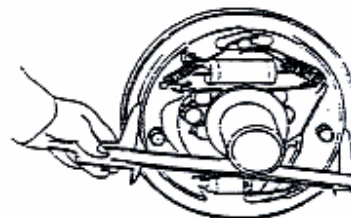
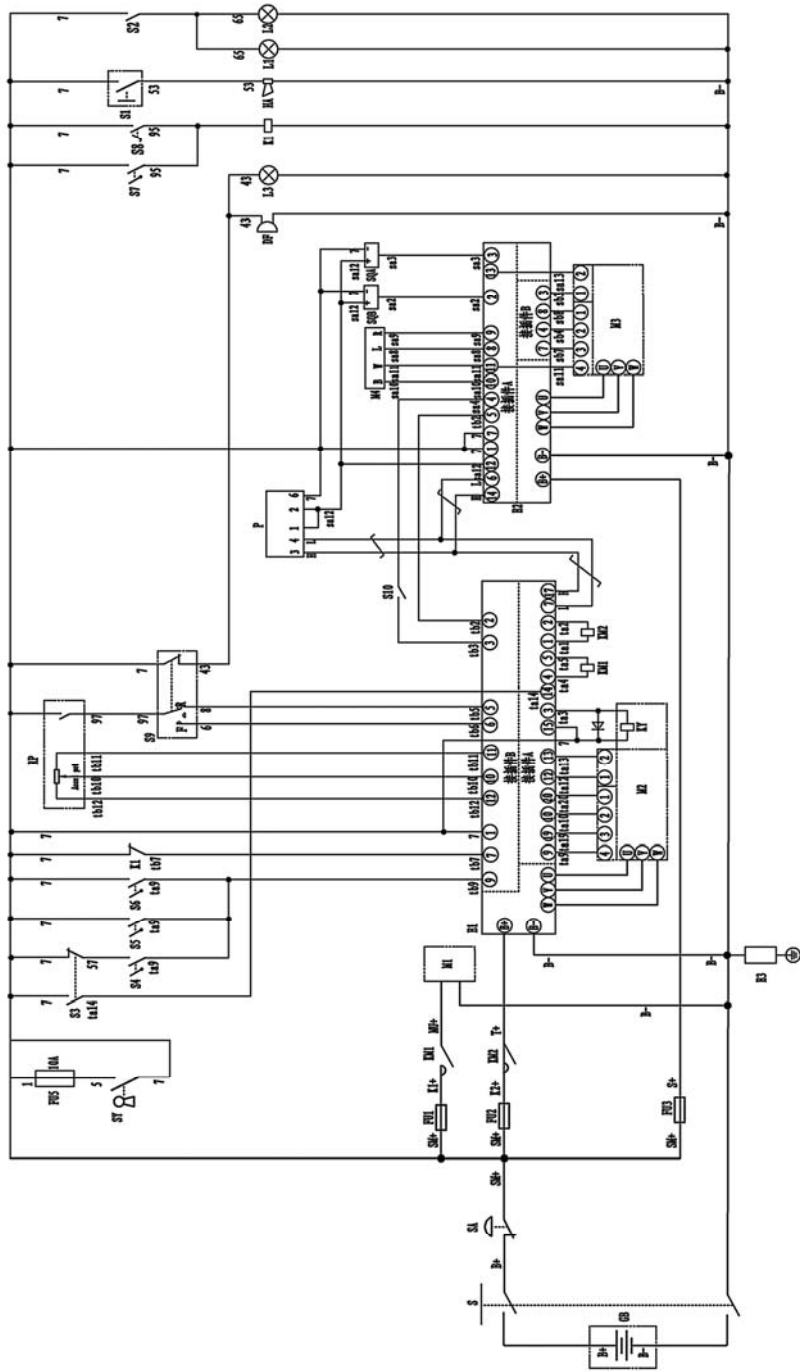
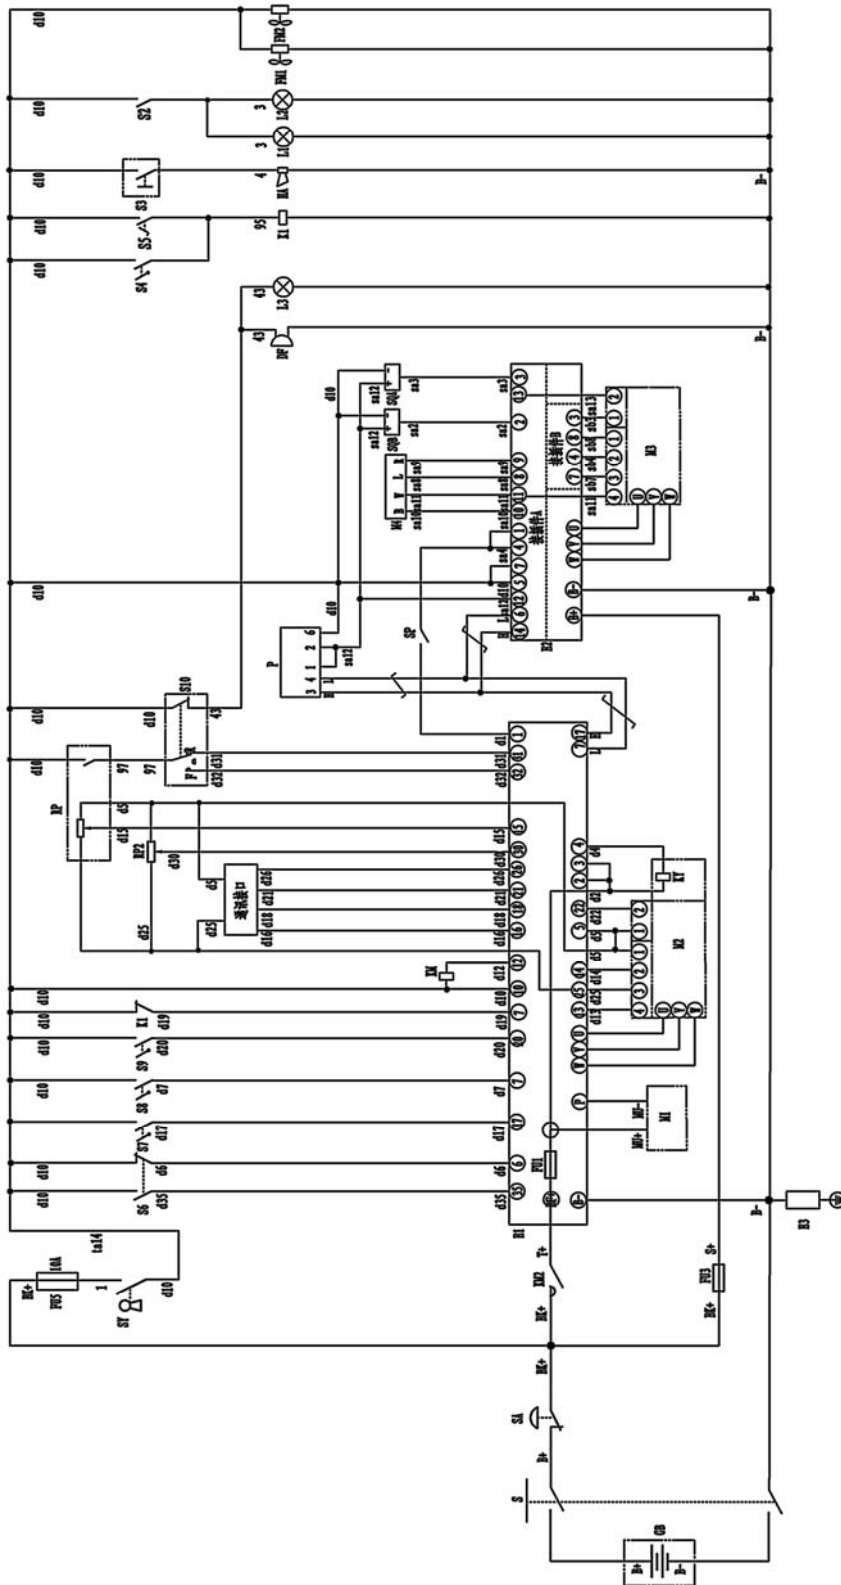

Figure 2-24
Figure 2-27 Schematic of electrical system of FE3R06-08
Figure 2-28 Schematic of electrical system FE3R06-12
- (8) Mount the brake shoe guide plate to the support pin, and then mount the return spring of the brake shoe. First install the main shoe and then install the auxiliary shoe. See figure 2-28
- (9) Mount the regulator, the regulator spring, ejector Pin, return spring of the ejector Pin. The following points shall be noted:
- (10) Connect the brake pipelines with the wheel cylinders.
- (11) Measure the inner diameter of brake drum and outer diameter of brake shoe, and then use the regulator to set the difference between inner diameter of brake drum and outer diameter of brake shoe at 0.3mm-0.5mm. See figure 2-24
The electrical system of FE3R06-12 three-wheel AC electric forklift is powered by an 80V battery and traction is enabled by the AC motor. The lifting force is generated in a way as follows: the DC motor drive pump to generate oil pressure, and then hydraulic pipes work on the hydraulic cylinders on both sides of the frame to achieve lifting of the fork. The lighting system is powered by a 24V voltage. Schematic of electrical system See Figure 2-27 See Figure 2-28